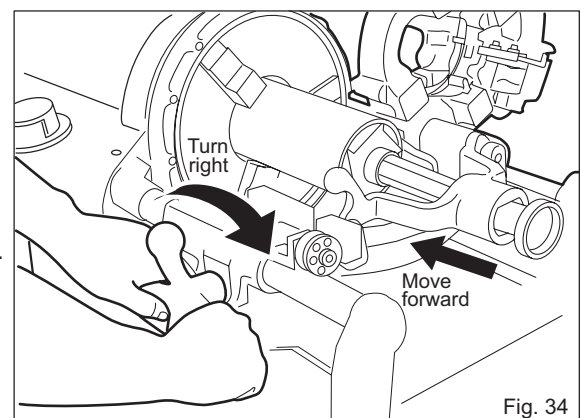

Fig. 34
- Turn the machine on to start the pipe rotating. Then turn the carriage handle to the right to move the reamer forward to engage the pipe. Allow the pipe to rotate at least 1/2 a turn, then remove the reamer from the pipe. That completes the reaming process. (Fig. 34)